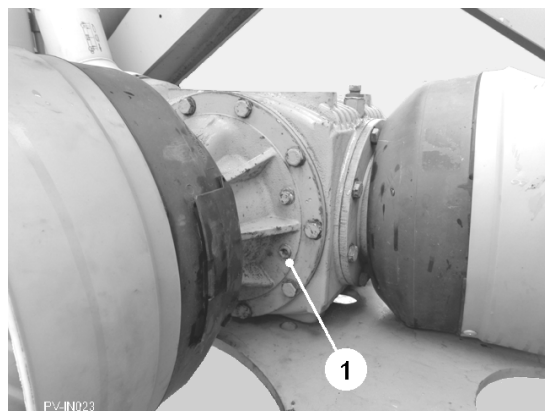

Fig. 13
The gearbox oil level is checked by removing the lower level plug (item 1, fig. 13). Oil level should be to the bottom of the hole with the machine level.